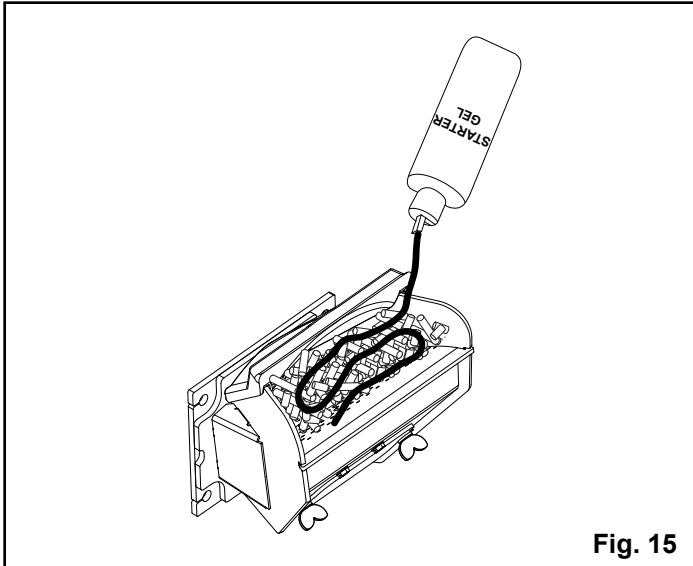

Fig. 15
11. Apply starting gel as shown in Fig. 15